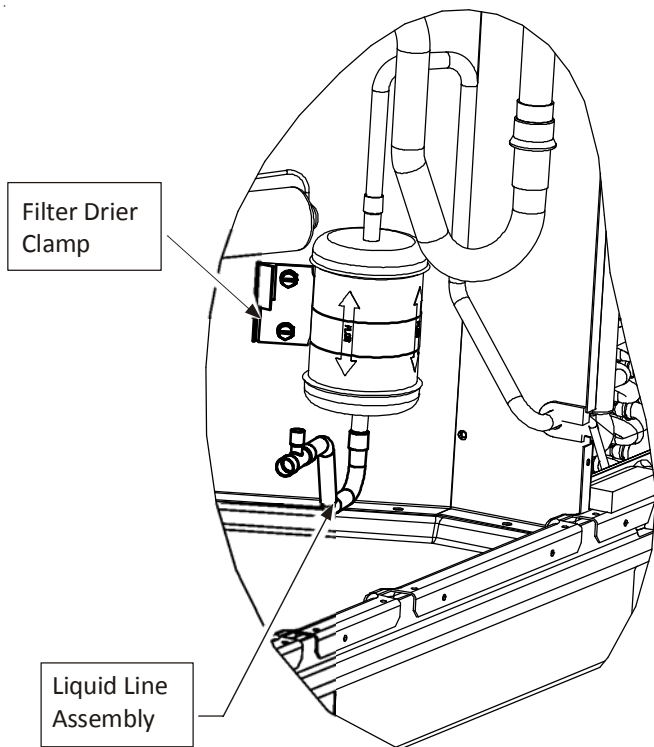

Figure 6
2. Place the filter drier clamp as shown in Figure 6. Use two #10 self tapping screws to secure the clamp to the partition panel.